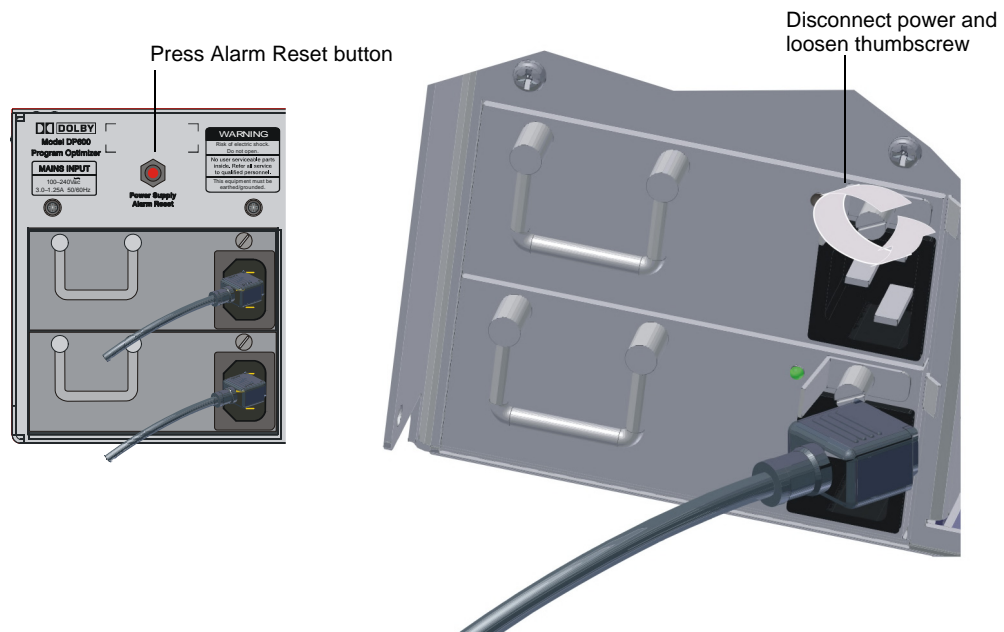

Figure 4-22 Loosen Thumbscrew on Failed DSL100 Power Supply
2. Press the red **Power Supply Alarm Reset** button to turn off the warning alarm, then disconnect the power cable on the failed power supply and loosen the unit's thumbscrew by turning it counterclockwise, as shown in Figure 4-22.